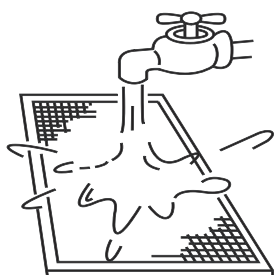

Fig.5-14
- The air-in side should face down when using clean water. (Refer to Fig.5-14)